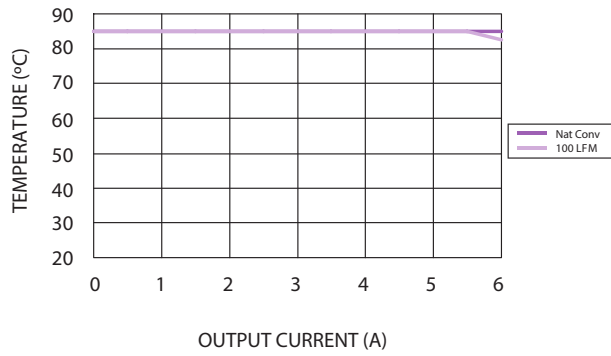

Figure 3 - Safe Operating Area for PTH12050L
- The pk-pk output ripple voltage is measured with an external 10  $\mu F$  ceramic capacitor. See Figure 3 for Standard application schematic.